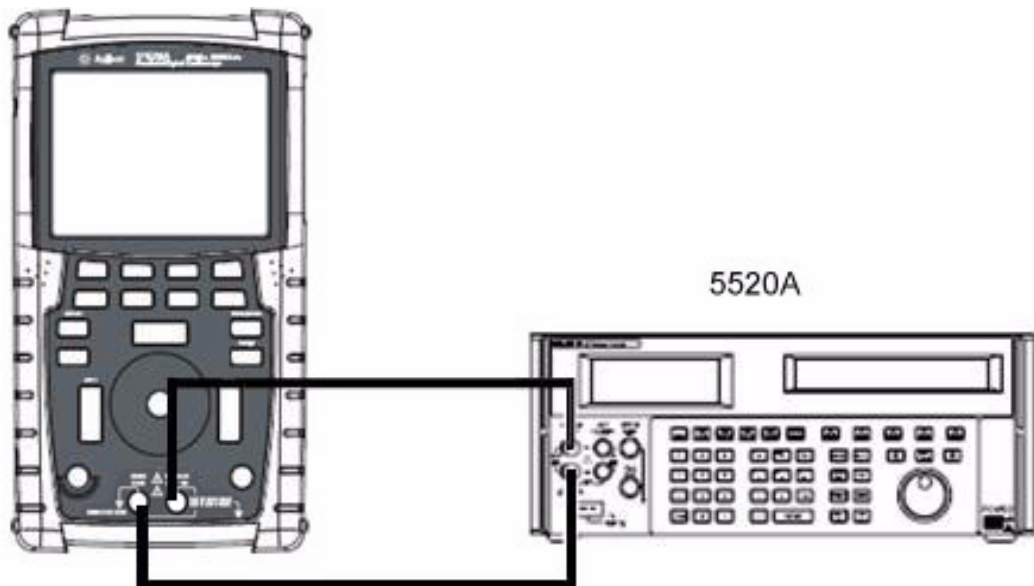

Figure 7-2 Test connections from calibrator to instrument
- 4 Connect the calibrator to instrument's input and ground terminal as shown in Figure 7-2 using a banana plug.
- 4 Connect the calibrator to the instrument's input and ground terminal as shown in Figure 7-2 using a banana plug.
- 4 Connect the calibrator to the instrument's input and ground terminal as shown in Figure 7-2 using banana plug.